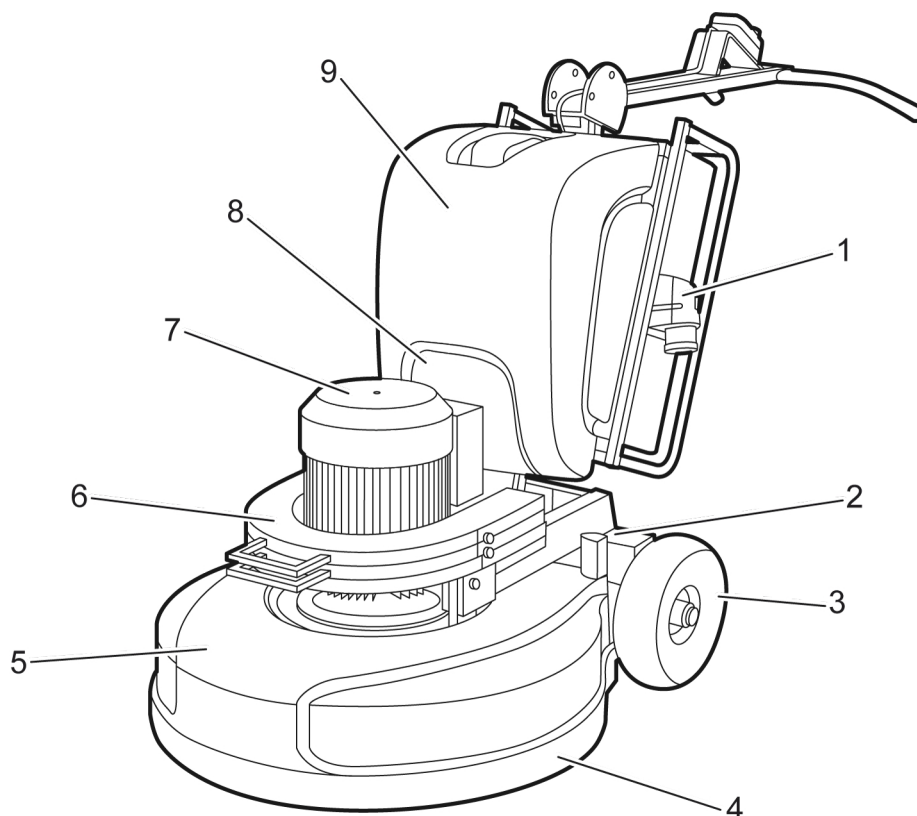
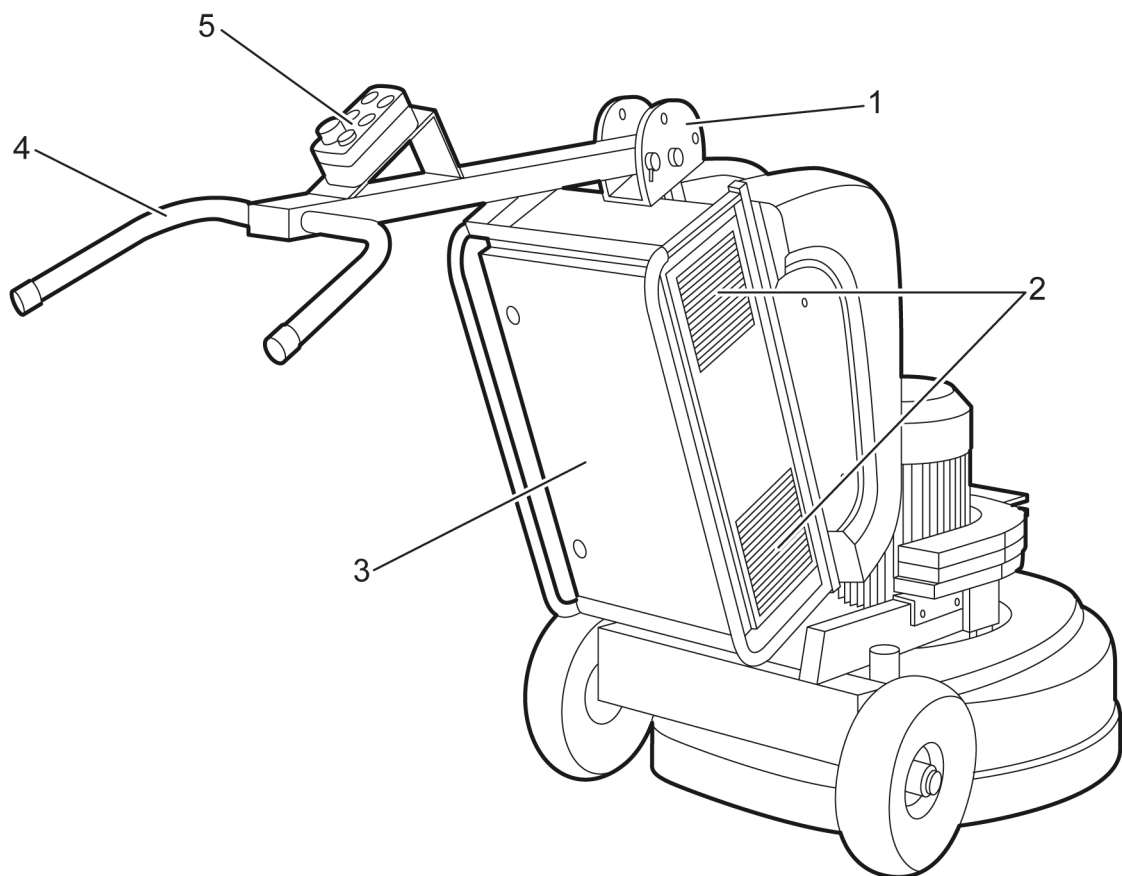

Figure 3-1. The front of the machine
Figure 3-2. The machine's rear
The machine is constructed from a number of main components, see Figure 3-1, page 8 and Figure 3-2, page 9. It can be combined with weights for adjusting the grinding pressure, which makes the machine perfect for those with high demands for flexibility.
5. **RESET** - Resetting the electronics: If the machine experiences an error, it can be reset by pressing and holding the button in for two seconds. Any error code is shown on the frequency converter's display inside the electrical cabinet, see Figure 3-2, page 9. For error codes, see Electronic error codes, page 24.
The appropriate working height is set with the help of the adjustable handle. Release the handle, by pulling the locking pin on the handle lock, see Figure 3-2, page 9.